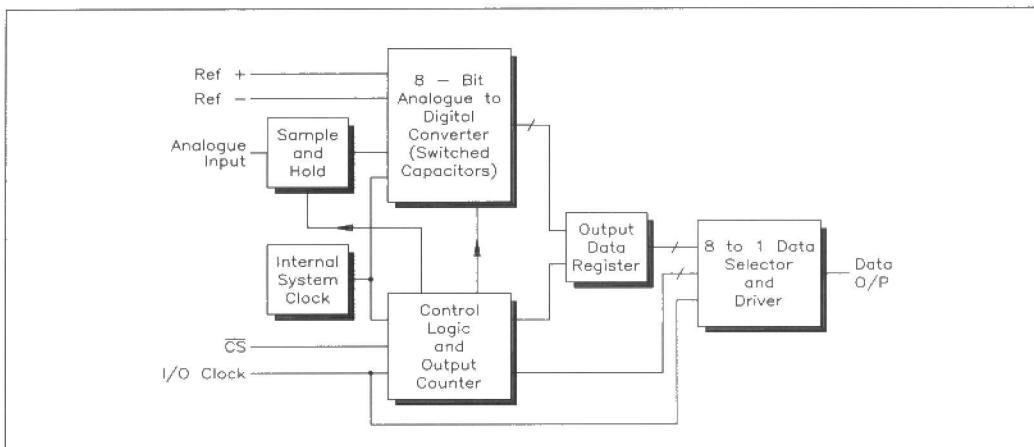
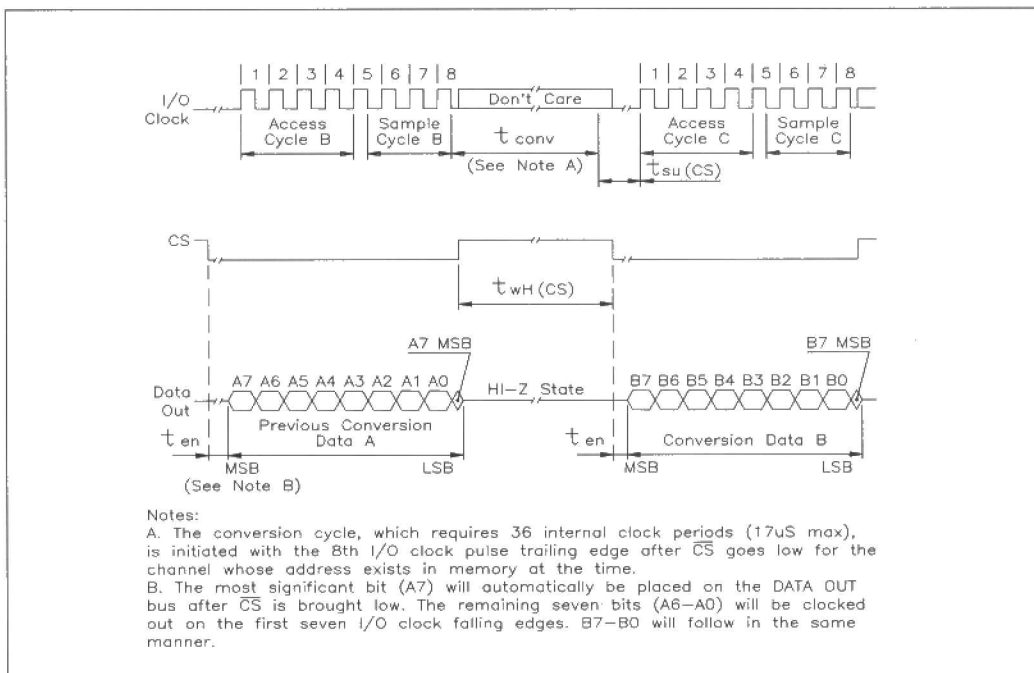
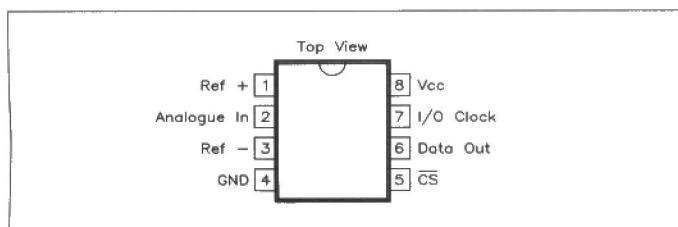

Figure 1a. Functional block diagram of TLC548I.
Figure 1b. Timing diagram of TLC548I.
Figure 2. TLC548I pinout.
The TLC548I is a complete data acquisition system on a single chip. The design of which is mainly for serial interfacing with a microprocessor or computer through a 3-state TTL compatible data output port and an analogue input port. Figure 1a illustrates the functional block diagram of TLC548I, and Figure 1b the timing diagram. The device requires an external I/O clock input along with Chip Select (CS) input for data control; Figure 2 shows the TLC548I pinouts. The maximum guaranteed I/O clock input frequency is up to 2.048MHz. There is an internal system clock which operates typically at 4MHz and requires no external components. The I/O clock together with the internal system clock allows completion of high-speed data conversion rates in 17 μ s or less, whilst the complete input-conversion-output cycle